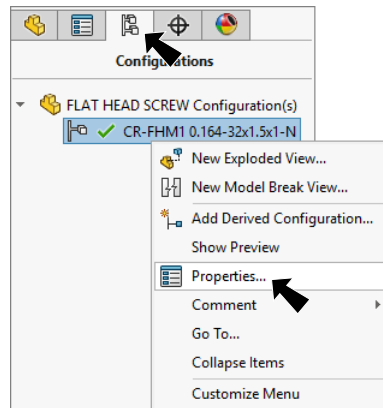

Fig. 6
Step 1. Click the Configuration Manager tab  at the top of the Feature Manager design tree, **Fig. 6**.
Step 2. **Right click** the configuration name  and click **Properties** from menu, **Fig. 6**.